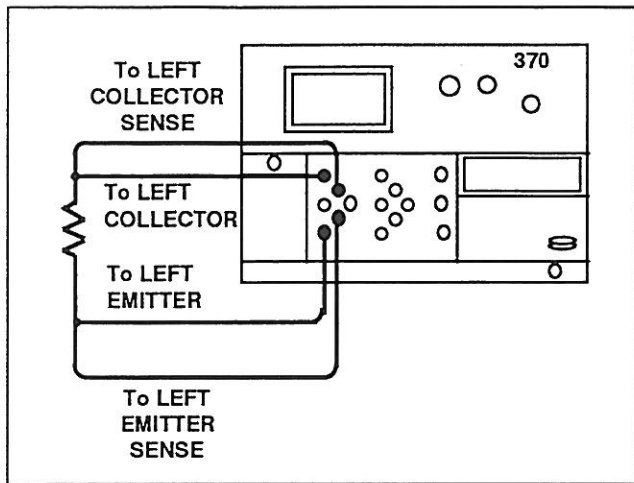

Figure 4-2. Resistor connection for checking accuracy.
- g. Connect the 0.025 Ω resistor as shown in Figure 4-2, then close the Protective cover.